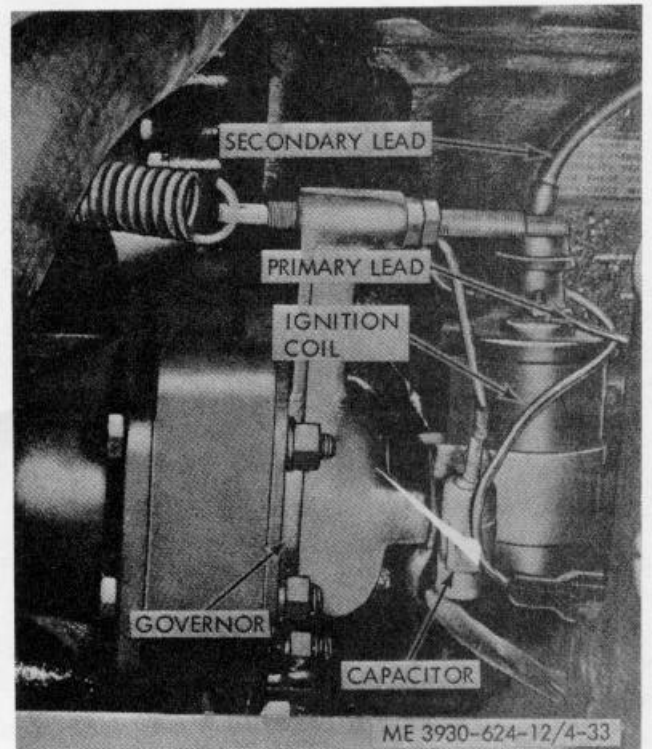

Figure 4-33. Ignition coil.
(1) Tag and disconnect the electrical leads from the ignition coil.
(2) Remove the two capscrews and lockwashers securing the coil to the engine as shown in figure 4-33. Remove ignition coil.